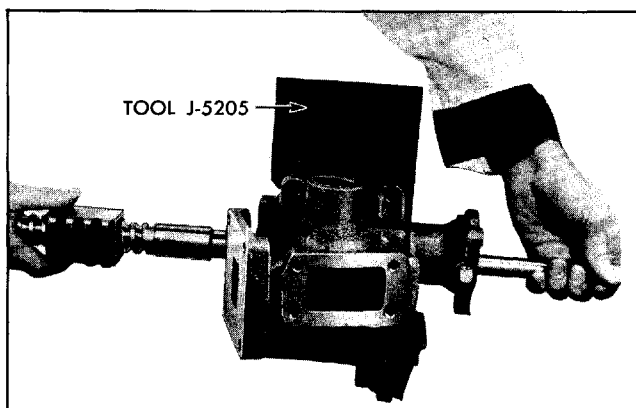

Fig. 9-36 Removing Steering Shaft and Ball Nut
3. Slide steering shaft and ball nut, as an assembly, out of gear housing (Fig. 9-36).